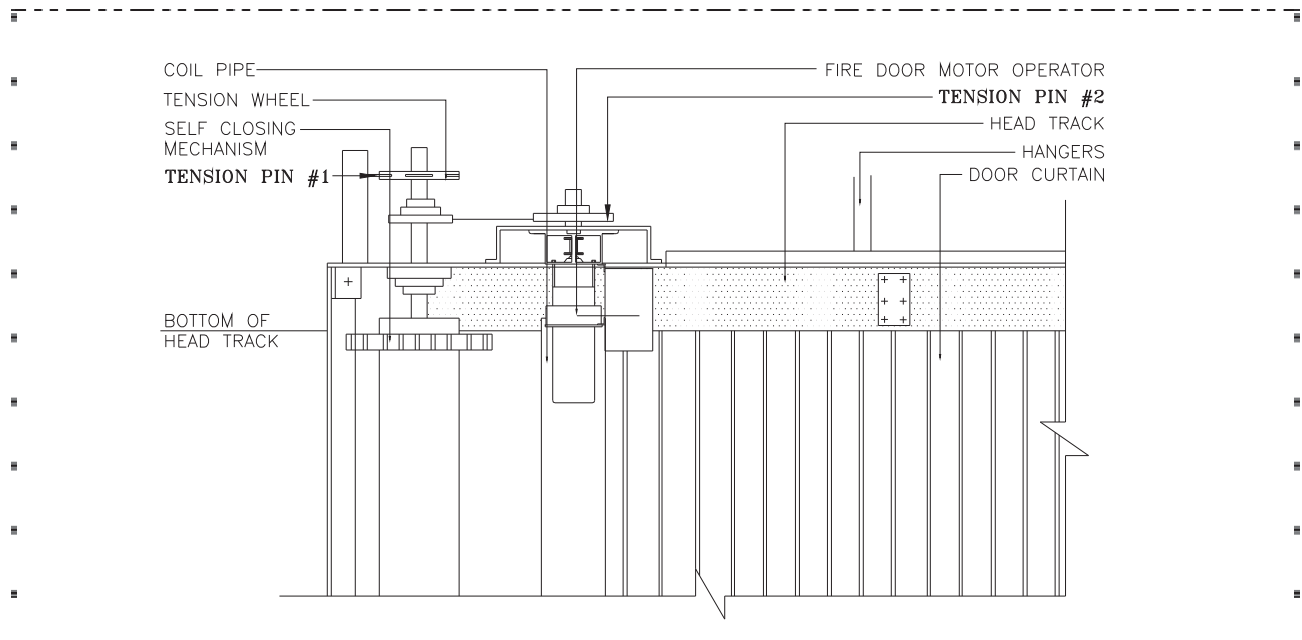

FIGURE 1
1. Tension retaining pin #1 must never be removed (refer to figure 1).
2. Tension retaining pin #2 must not be removed prior to power and central alarm system connection to fire door motor operator and must be removed prior to any operation of the door. For units with operators less than 1-1/2hp, tension retaining pin #2 is located on tension wheel #2 (can be located on either the coil barrel assembly or the pusher barrel assembly) as shown in figure 1 below. Units with operators of 1-1/2hp or greater, tension retaining pin #2 is located on the motor end of the operator and is clearly marked "Warning: Use only during installation. Must remove when powering up."